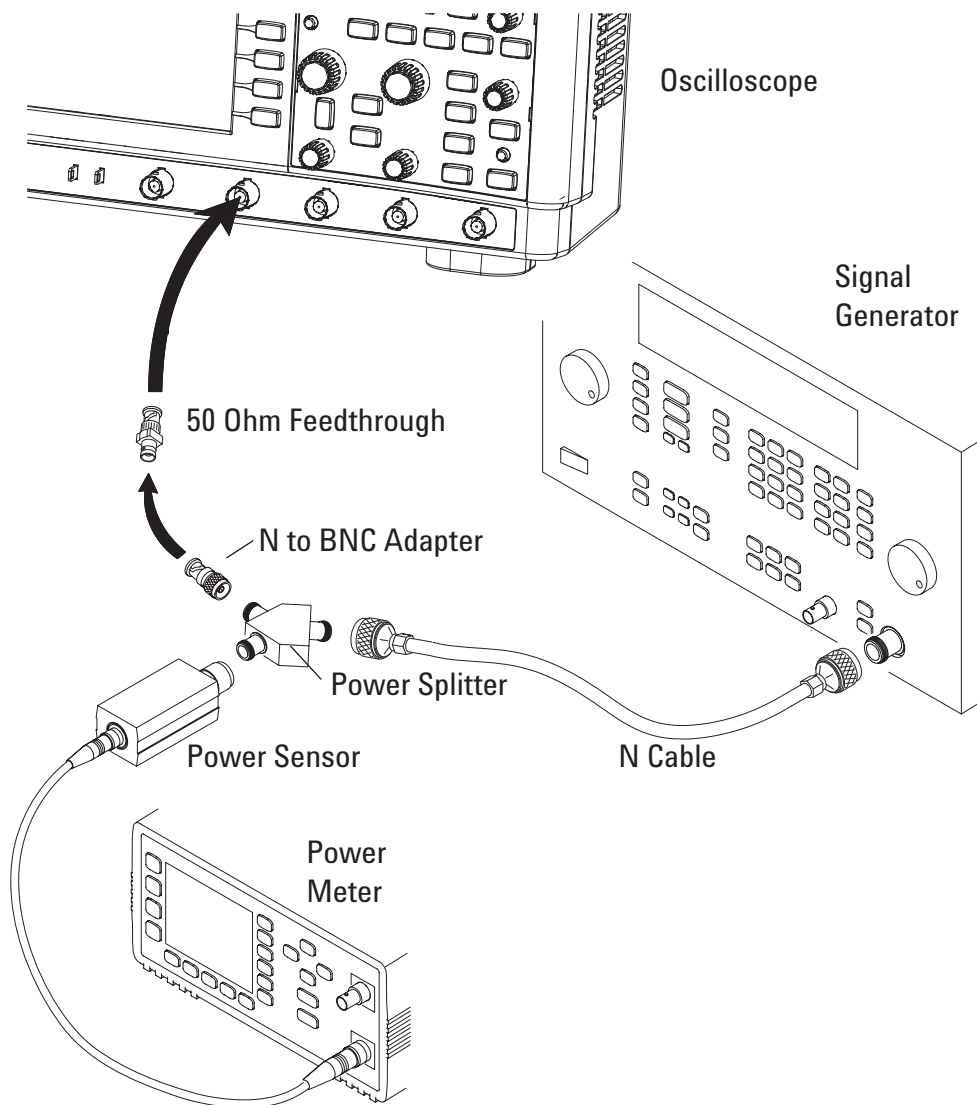

Figure 3 Setting Up Equipment for Bandwidth (-3 dB) Verification Test
- 1 Connect the equipment (see **Figure 3**).